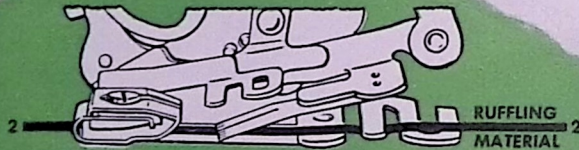

Fig. 71. Correct Position for Material
2. Insert material to be plaited between two blue blades and under the separator guide (**Line 2, Fig. 71**).